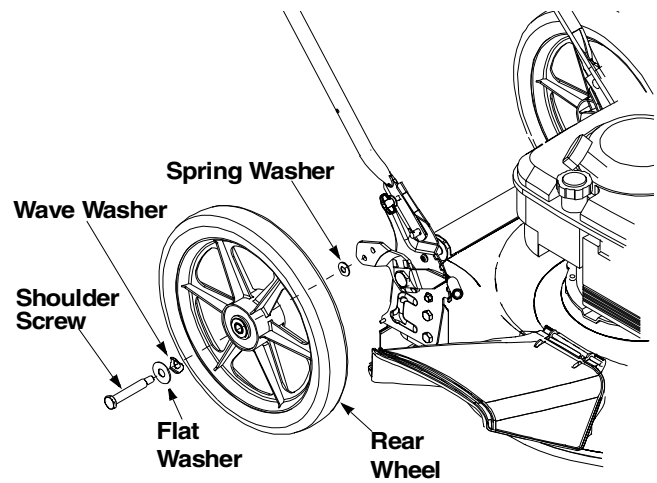

Figure 7
- Insert shoulder screw through flat washer, wave washer, rear wheel, and spring washer as shown in Figure 7 . Insert this assembly into the corresponding hole on the rear pivot bar and secure.